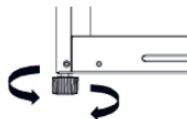

Fig. 4
- To level your refrigerator you may either turn the level leg clockwise to raise that side; or turn the level leg anti-clockwise to lower that side. (Fig. 4)